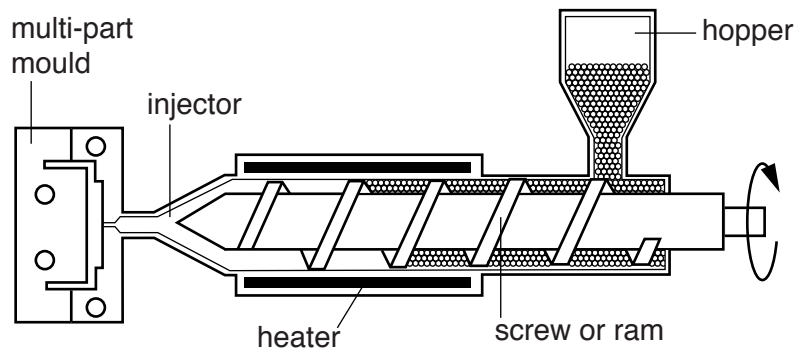

Fig. 13
- (ii) Fig. 13 shows a cross-sectional view of an injection moulding machine. Complete the table to give the stages in the injection moulding process.